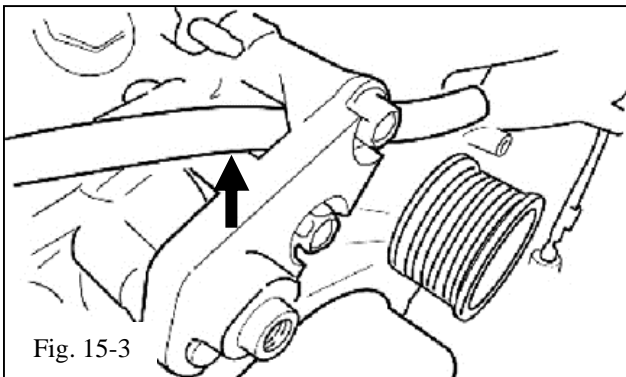

Fig. 15-3
- (c) Route the No. 6 water bypass hose between the two legs of the idler pulley bracket (Fig. 15-3).
NOTE: Fig. 15-3 does not show the mesh sleeve on the No. 6 water bypass hose. Make sure the mesh sleeve extends down between the legs of the bracket.